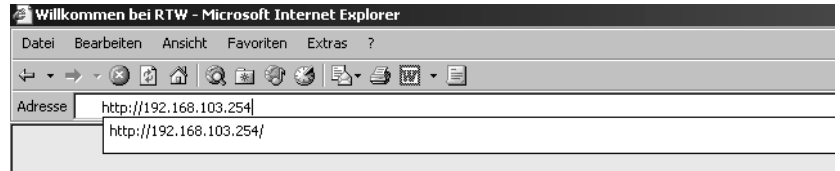

Fig. 8-17: Entering the IP-Address
1. Start your internet browser and enter `http://192.168.103.254` in the address field (see Fig. 8-17) followed by the hit of the return (Enter) key.